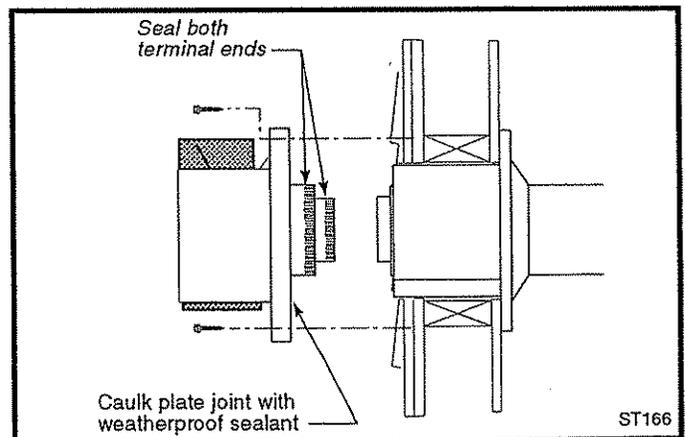

Fig. 35 Install the vent terminal.
10. Install the vent terminal. (Fig. 35) Apply high temperature sealant one inch from the ends of the inner and outer termination collars into the adjacent pipes. Guide the inner and outer vent termination collars into the adjacent pipes. Double check that the vent pipes overlap the collars by 2". Secure the termination to the wall with the screws provided and caulk the joint with weatherproof sealant.